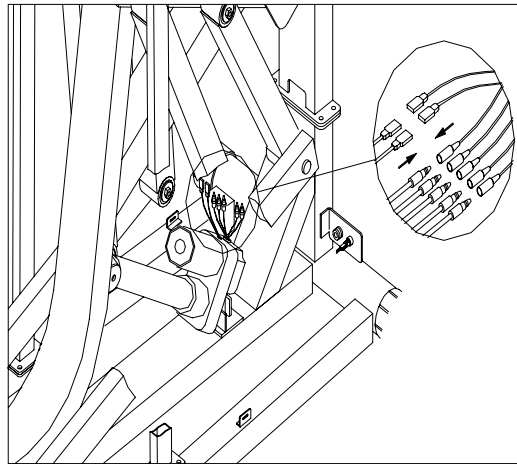

Figure 5. Connect VR wires.
5. Connect the VR wires as shown in Figure 5 by linking like-colored wires.